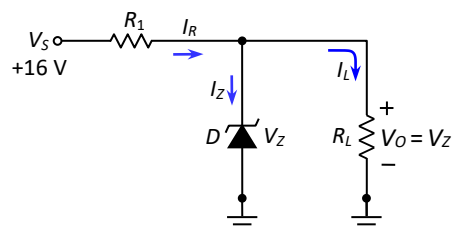

Fig.3-113: Circuit for problem no. 27
27. (a) Design the network of Fig.3-113 to maintain $V_L = 10 \text{ V}$ and for a variable load current of $I_L = 0$ to 120 mA .